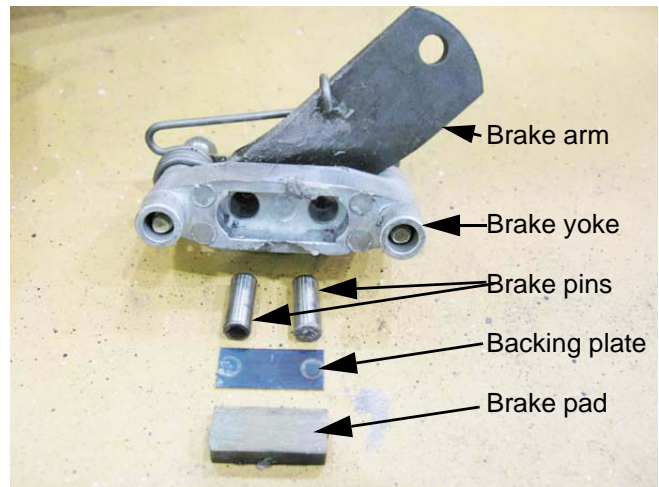

Figure 5.64
- 6e. Disassemble and inspect the brake yoke. See Figure 5.64.